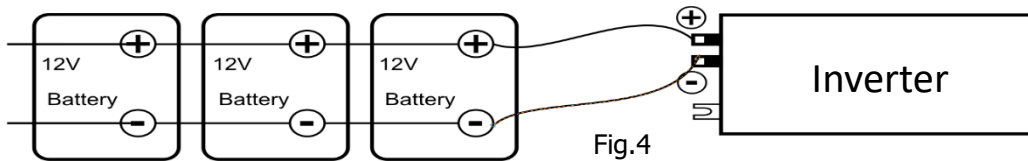

Fig.4
3) Multiple batteries in parallel connection(Refer to Fig.4): Each battery’s voltage must be equal to the Nominal DC Voltage of the unit.